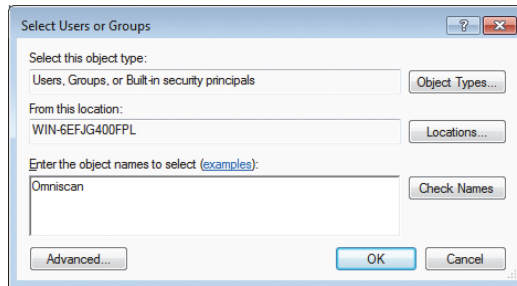

Figure 7-32 The Select Users or Groups dialog box (Windows 7)
11. In the **Select Users or Groups** dialog box, click the **Locations** button (see Figure 7-32 on page 221).
13. In the **Enter the object names to select** box of the **Select Users or Groups** dialog box, type **Omniscan** (see Figure 7-32 on page 221), and then click **OK**.